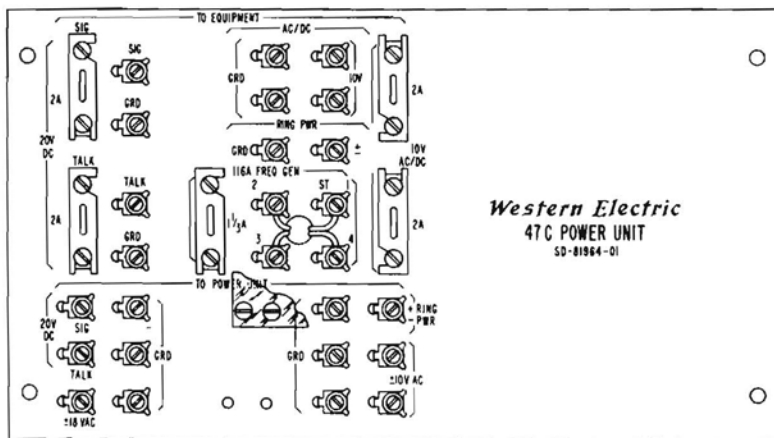

Fig. 3—Wiring Connections for 47C Power Unit
3.01 Charge the battery locally for 16 hours before installation. Install the battery in the 47C power unit and connect to a 19-, 20-,  $\blacklozenge$ 29- or 30-type power unit (KSU Power Supply). See Fig. 3.
**4.04** Connect the pigtail leads from the 116A Frequency Generator to terminals on the front panel (see Fig. 3) as follows: